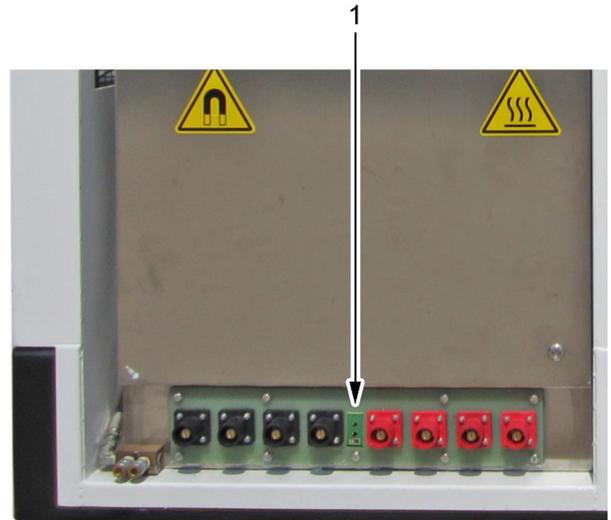
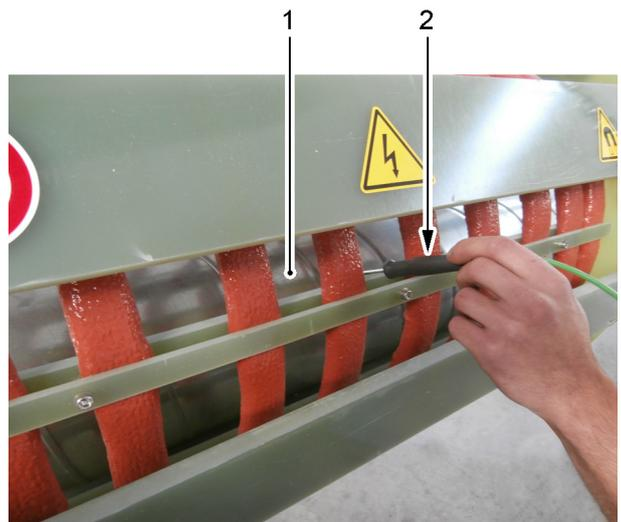

Figure 6.16 - Temperature transducer connector
Figure 6.17 - K thermocouple type temperature probe
The Induction Heating Generator IHG 150CU may be equipped with an automatic system that stops the heating cycle when the pipe reaches a preset temperature. In order to use this functionality it is necessary to connect to the temperature transducer socket connector (see Figure 6.16/1) a K thermocouple type temperature probe (see Figure 6.17/2). During the heating cycle the temperature probe shall be in contact with the section of the pipe (1) to be heated.